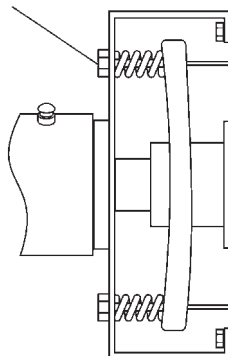

Figure 26. Drum Seal Adjusting Nuts
2. As the seals naturally wear, material will seep from the drum head. Tighten the adjusting nuts equally until a slight pressure is felt (Figure 26). The seals are now tight. This procedure should be done periodically as the seals leak.